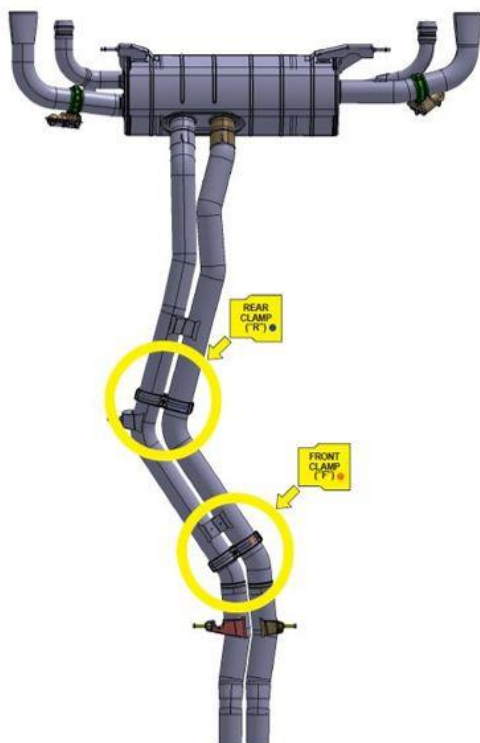

Figure 1. Bottom View of the exhaust system with clamps installed
2. Identify the front and rear clamp positions as per figure 1 diagram.